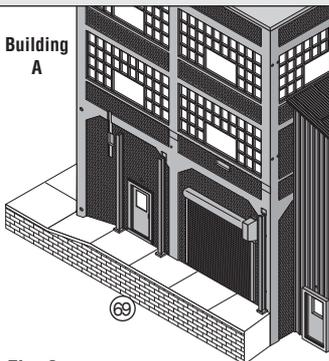

Fig. 6g
- Snap Dock (69) into place and apply glue on tabs on inside of building (Fig. 6g).